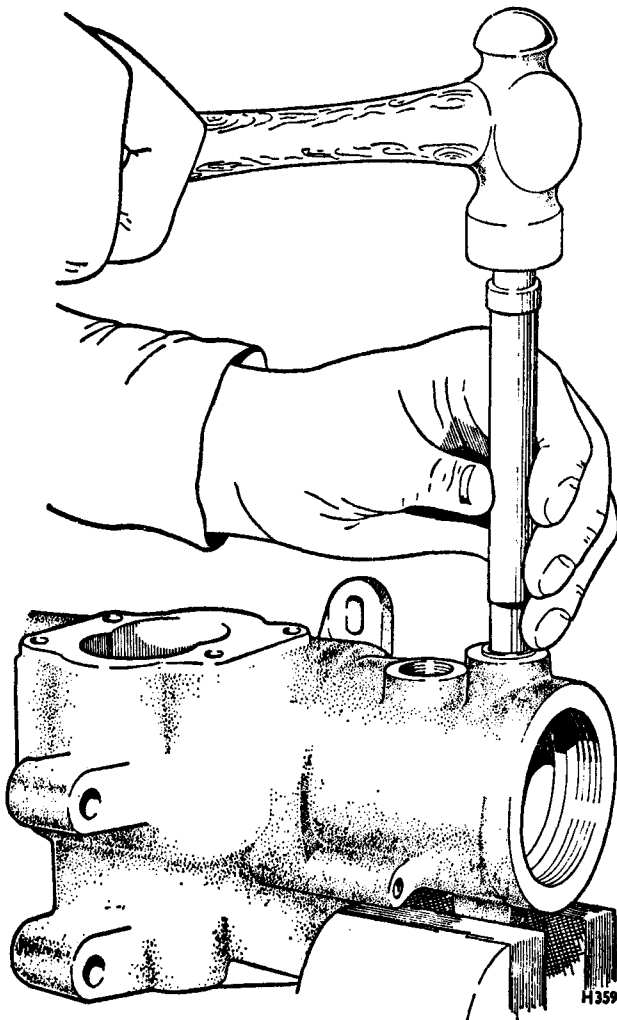

FIG. N28 INSTALLING HOSE CONNECTOR SEAT
9. Fit new connector seats using petroleum jelly to hold the connector seat on the poppet valve in the pressure port. Bed the connector seats lightly in place using valve connector seat insertion tool (RH 7786) (see Fig. N28).